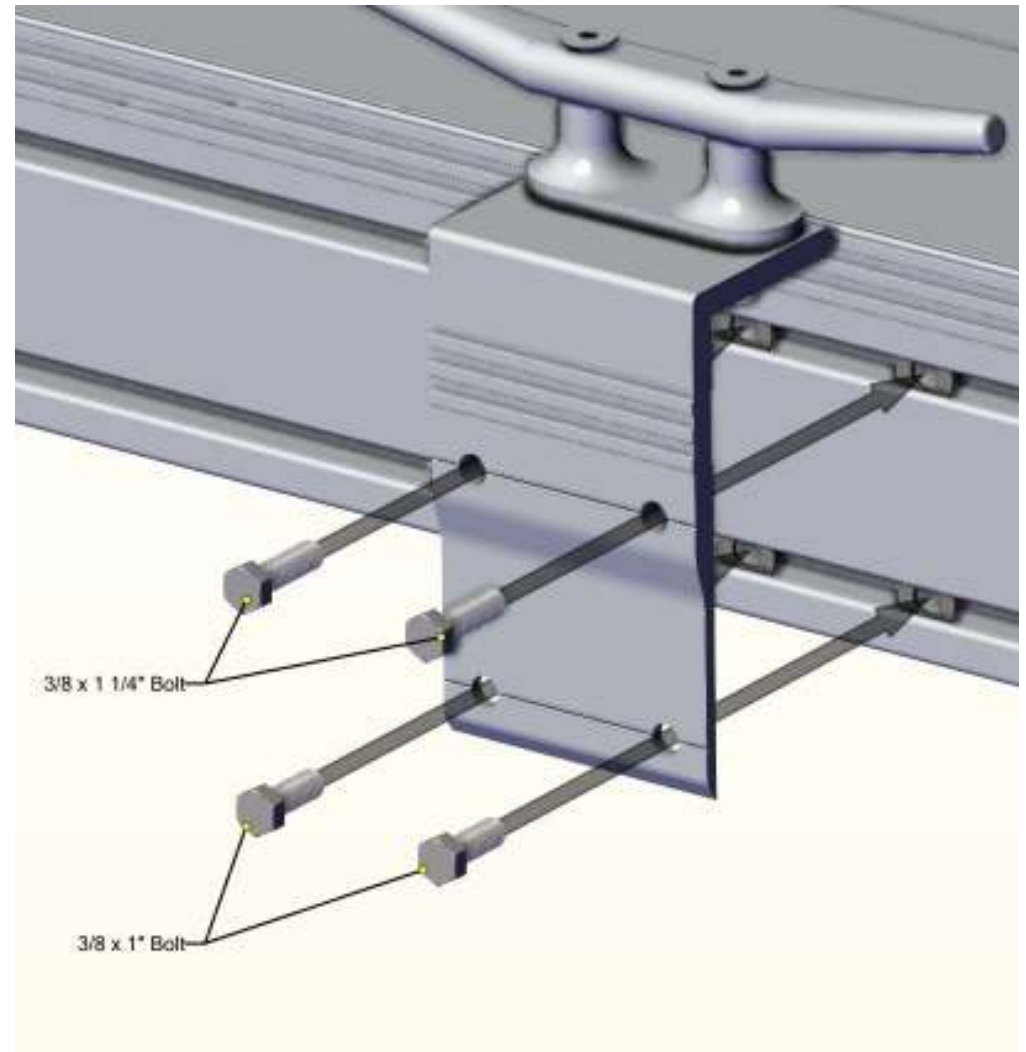

FIG. 2
Insert (2) 3/8" x 1 1/4" bolts in the top holes and (2) 3/8" x 1" bolts in the bottom holes of the angle bracket, align the bolts with the corresponding nylock nuts and flatwashers previously installed. Adjust to the desired location. Torque to 40 ft/lbs. See Fig 2.